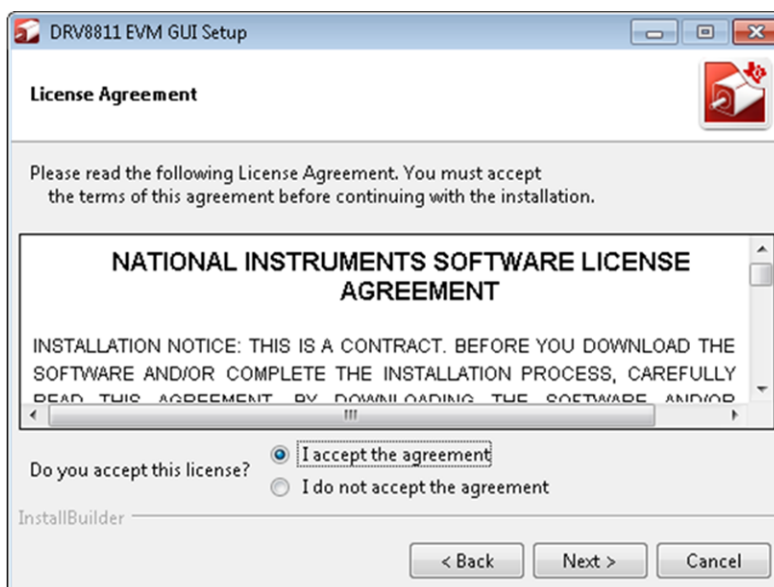

Figure 6. NI License Agreement
4. A screen as shown in Figure 6 appears, displaying the license agreement of National Instruments. Please read through the agreement carefully and enable the "I Accept the License Agreement" radio button and press the **Next** button.